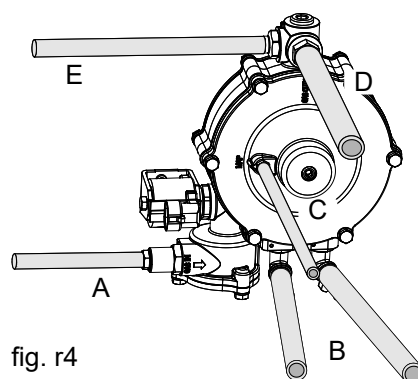

fig. r4
- the following components must be connected in series to the regulator gas outlet (“D” in fig. r4): the filter (optional), the pressure/temperature sensor and the gas metering unit. Care must be taken to ensure that there are no kinks or swollen sections kinks in the pipes/hoses;